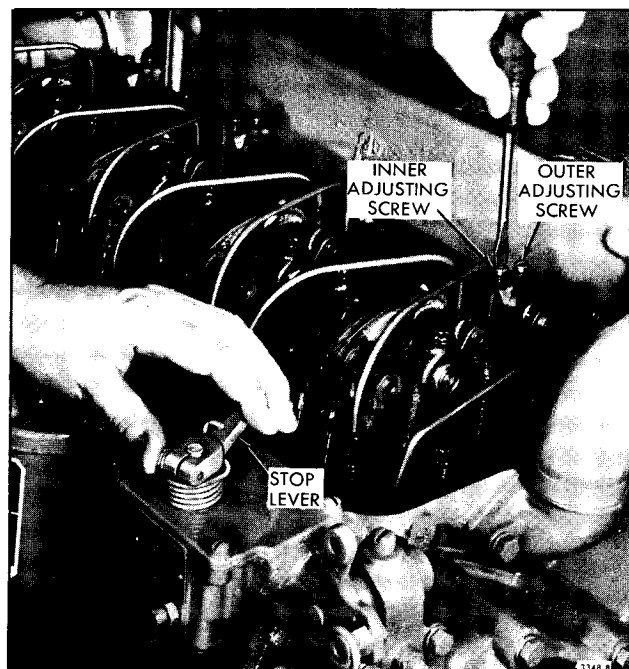

Fig. 2 - Positioning the Rear Injector Rack Control Lever
The position of the injector racks must be correctly set in relation to the governor. Their position determines the amount of fuel injected into each cylinder and ensures equal distribution of the load. Adjust the rear injector rack control lever, Fig. 2 first to establish a guide for adjusting the remaining injector rack control levers.
1. Refer to Fig. 2 and disconnect any linkage attached to the stop lever.
4. Move stop lever to the RUN position and the speed control lever to the maximum speed position as shown in Fig. 2. Turn the inner adjusting screw down until a slight movement of the control tube is observed or a step up in effort is noted. This will place the rear injector rack in the FULL FUEL position. Turn down the outer adjusting screw until it bottoms lightly on the injector control tube. Then alternately tighten both the inner and outer adjusting screws until they are tight.